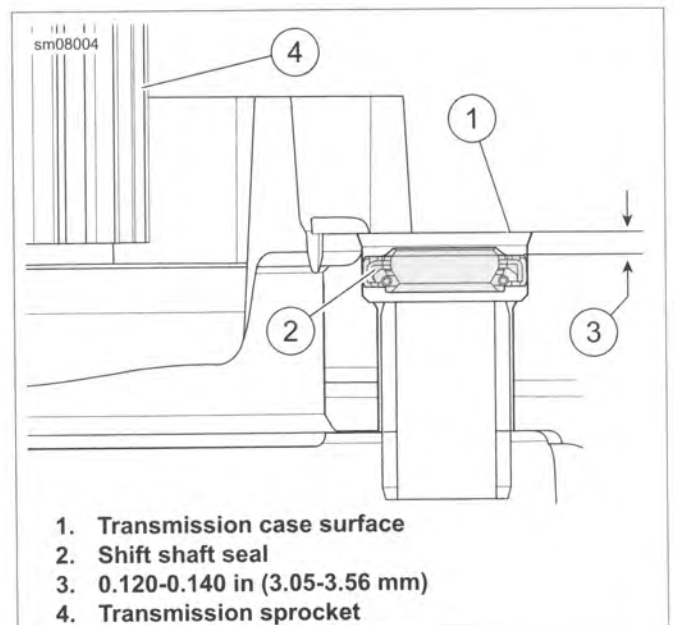

Figure 6-62. Shift Shaft Seal Installation
7. See Figure 6-62. Using SHIFTER SHAFT SEAL INSTALLATION TOOL (Part No. HD-51337), install a **new** seal. Make sure the seal's garter spring faces the transmission. Drive the seal in until the tool bottoms out on the transmission case. This installs the seal to the correct depth.